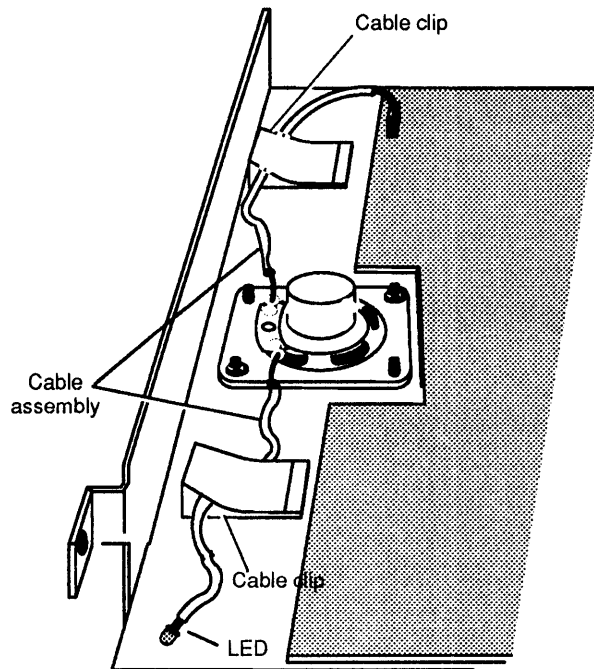

Figure 4-23 Connecting the Cable Assembly with the Two Cable Clips
5. Connect the cable assembly to the tray assembly with the two cable clips, as shown in Figure 4-23.